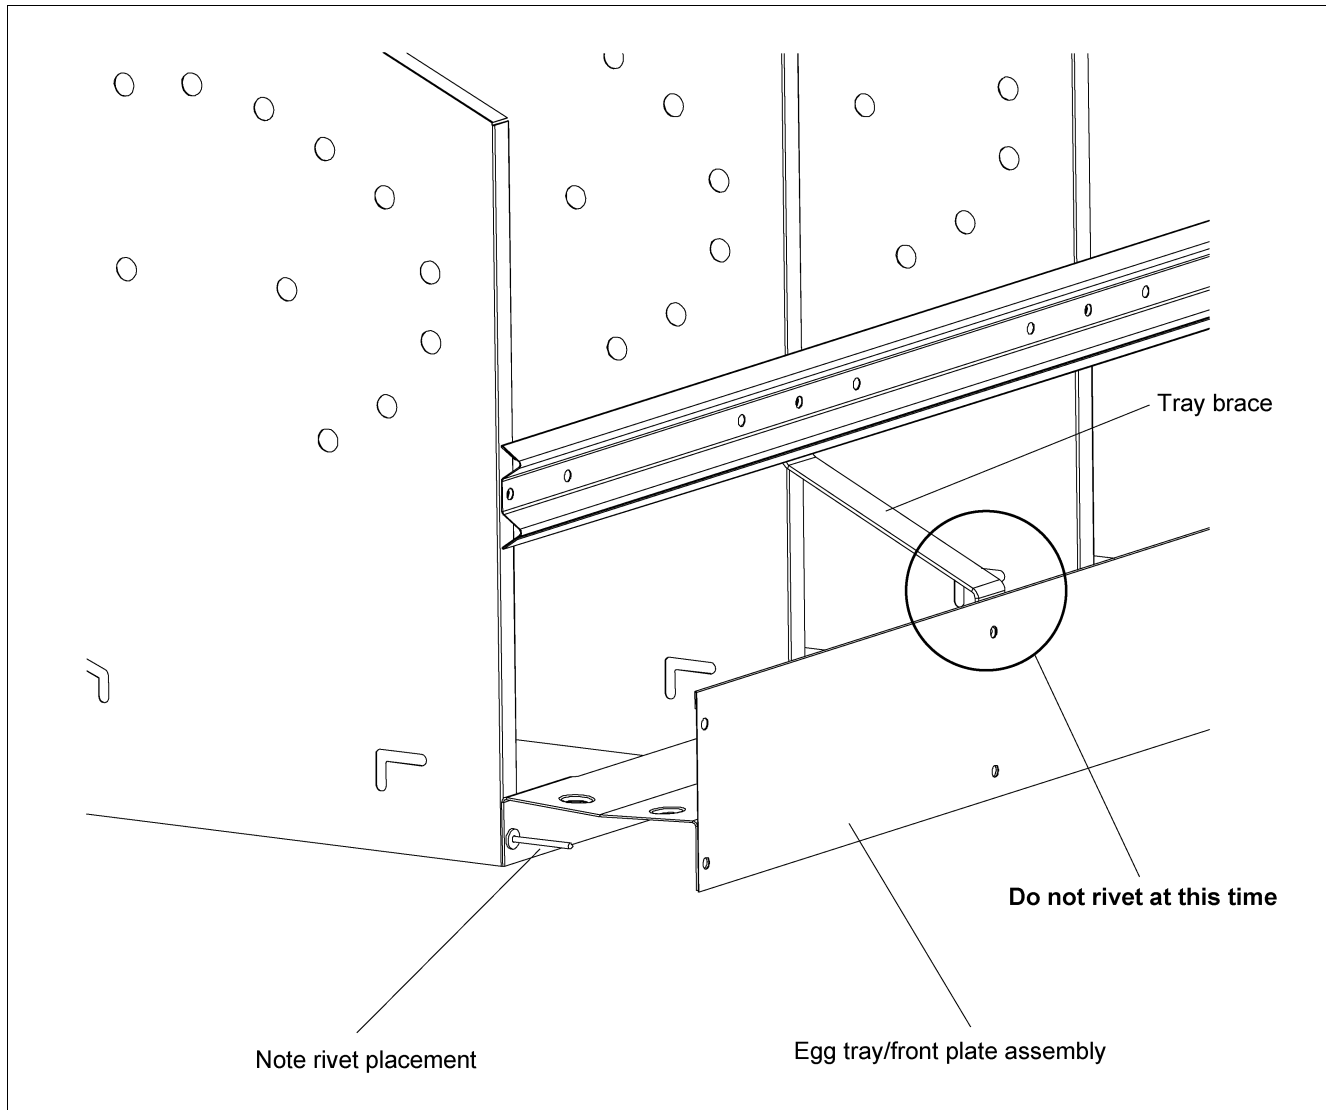

Figure 4G Egg Tray/Front Plate Assembly to Nest
4. Attach egg tray/front plate assembly to the nest panels using eleven (11) **S-7222 (3/16" rivet diameter, 5/16" long aluminium rivets) aluminium rivets** (nine (9) for FRN16). Secure rivets from under the egg tray on through the nest panel. (See Figure 4G.) Complete this step on both sides of the nest. **Do not rivet front plate to tray brace at this time.**